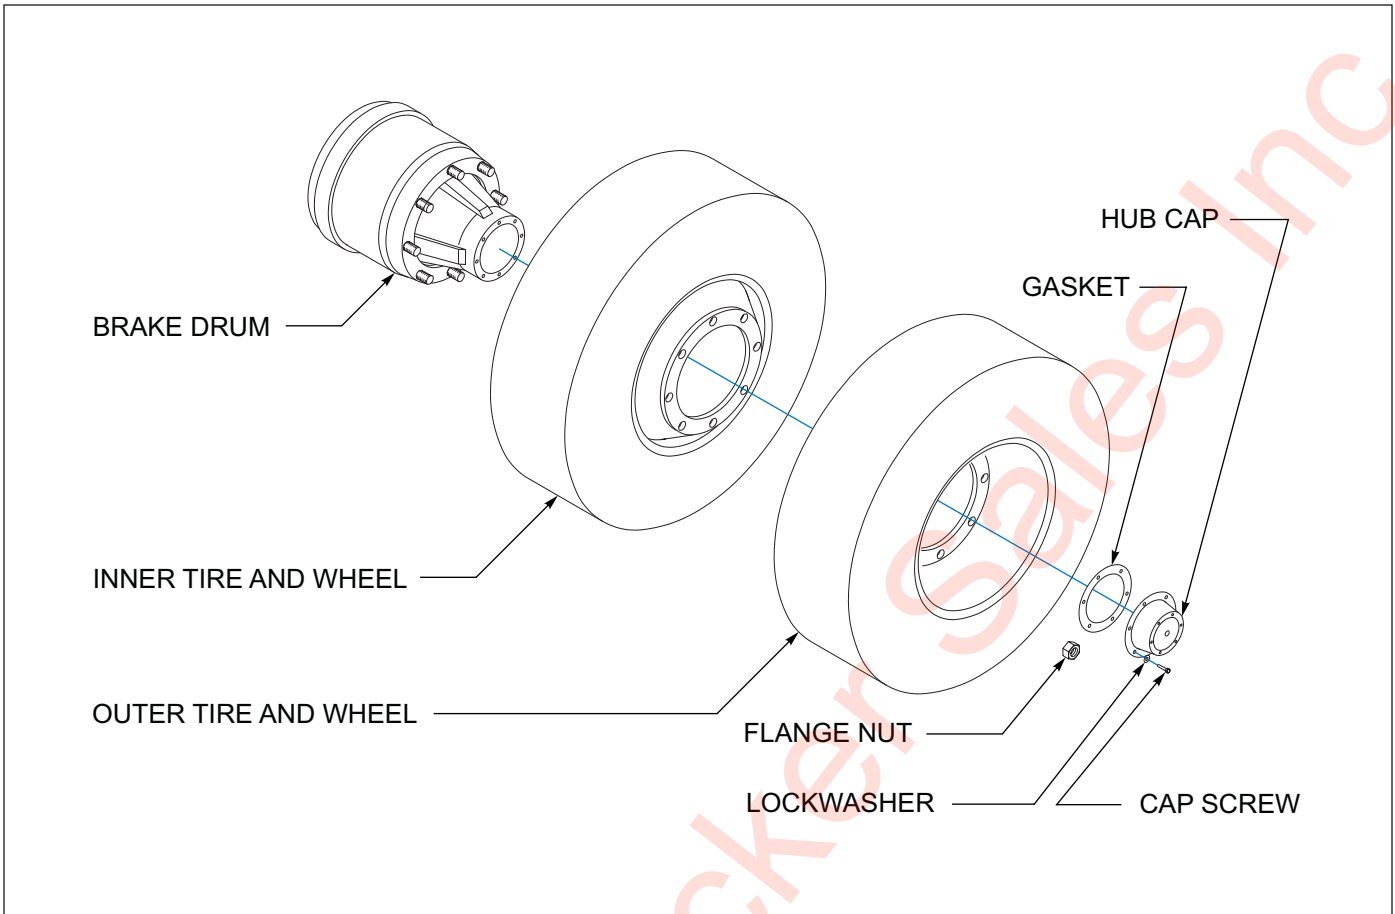

Figure 4-22: Mounting Tires and Wheels
1. Make sure that all mounting surfaces are clean and free of rust, dirt or paint. A wire brush may be used to clean these surfaces (See Figure 4-22.)